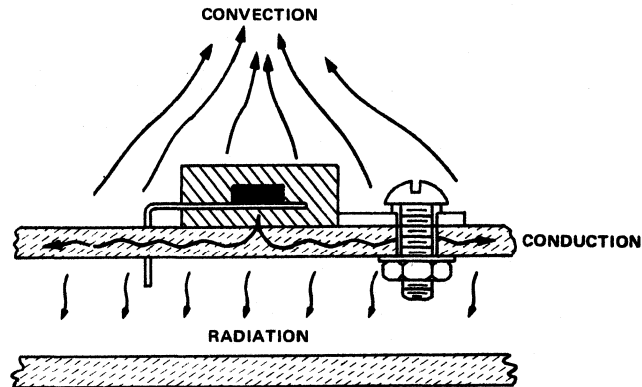

Figure 5.3. Heat Flow Paths of Semiconductor Cooling
In designing a custom heat sink, first consider the three modes of heat transfer: (1) conduction, (2) radiation, and (3) convection. Figure 5.3 describes pictorially the heat flow paths from the junction of a typical semiconductor.